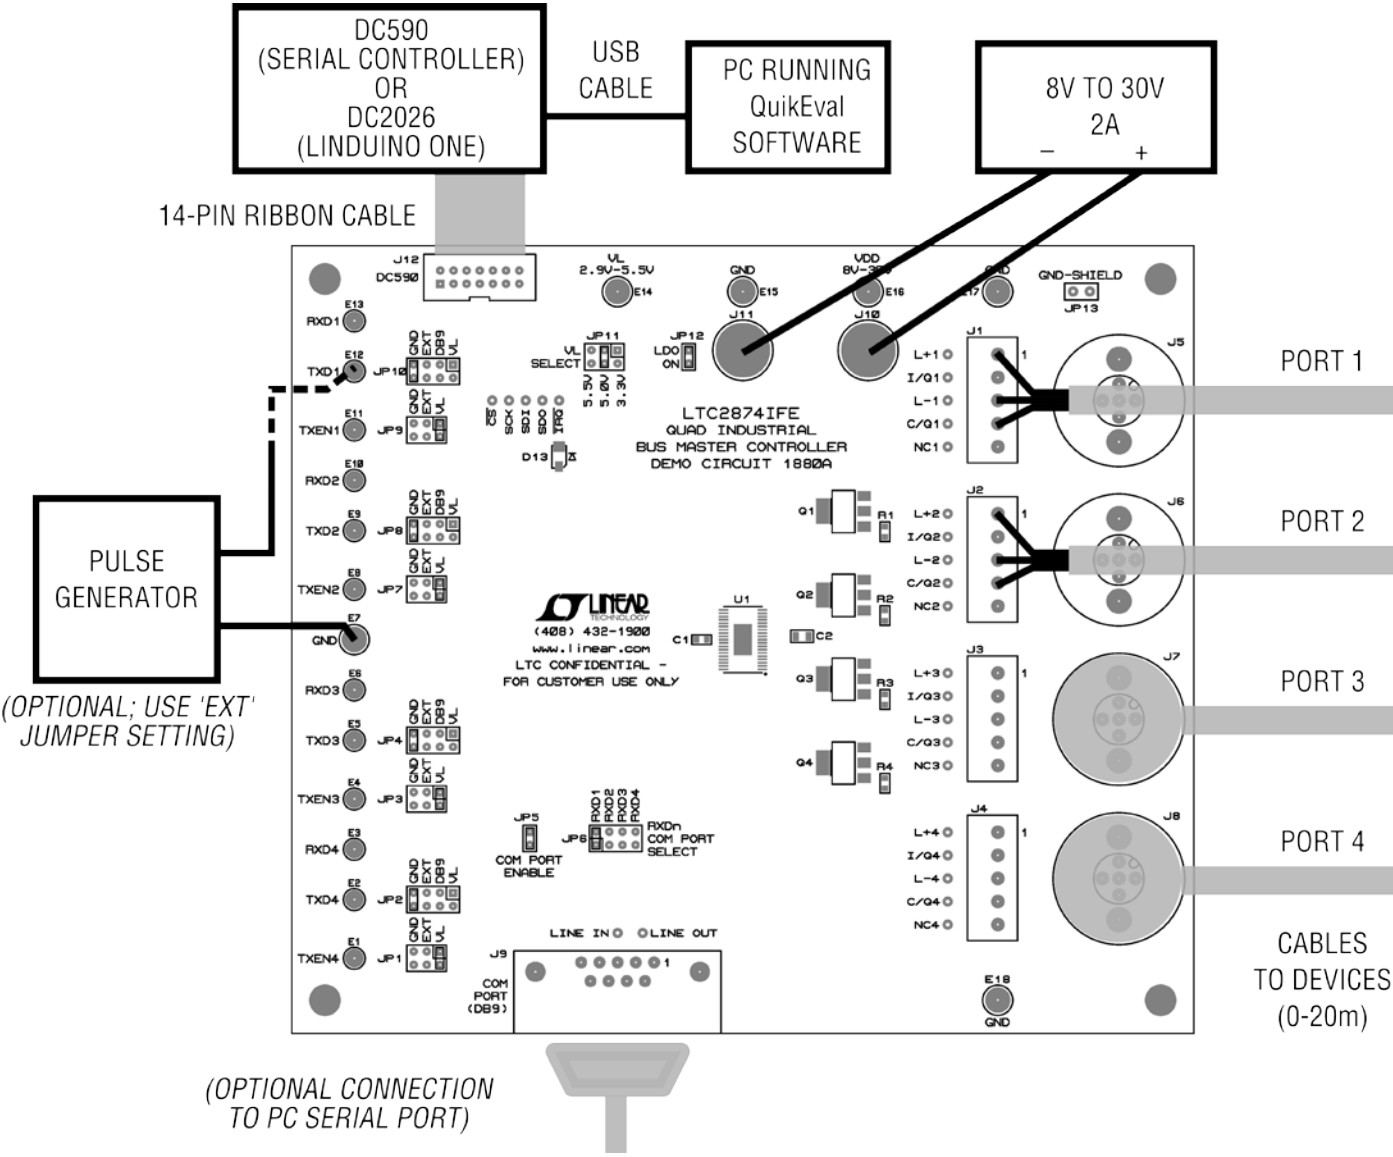

Figure 1. Proper Setup
6. Connect the power supply between V_{DD} and GND on the DC1880A board as shown in Figure 1.